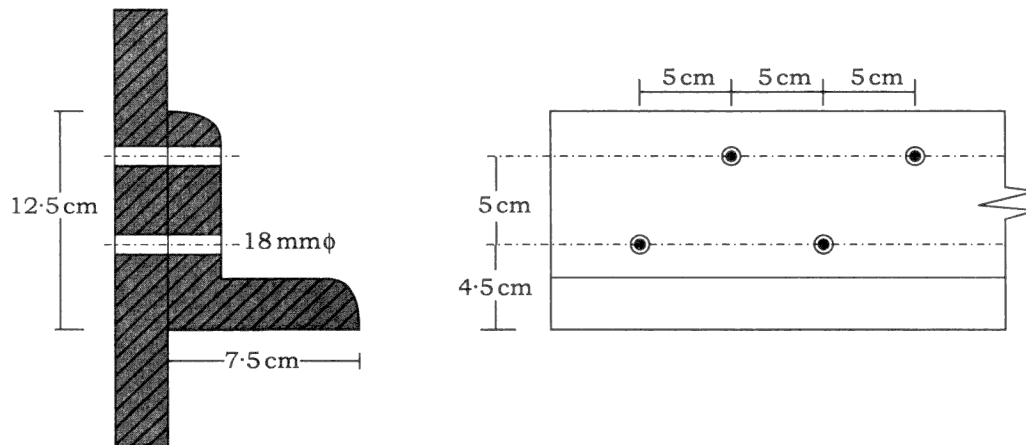

Fig. 1(e)
- (e) An unequal angle ISA 125 mm \times 75 mm is required to carry a tensile load of 160 kN. The angle section is connected to the gusset plate through the longer leg by 18 mm dia bolts as shown in Fig. 1(e) below. Select a suitable thickness for the angle :